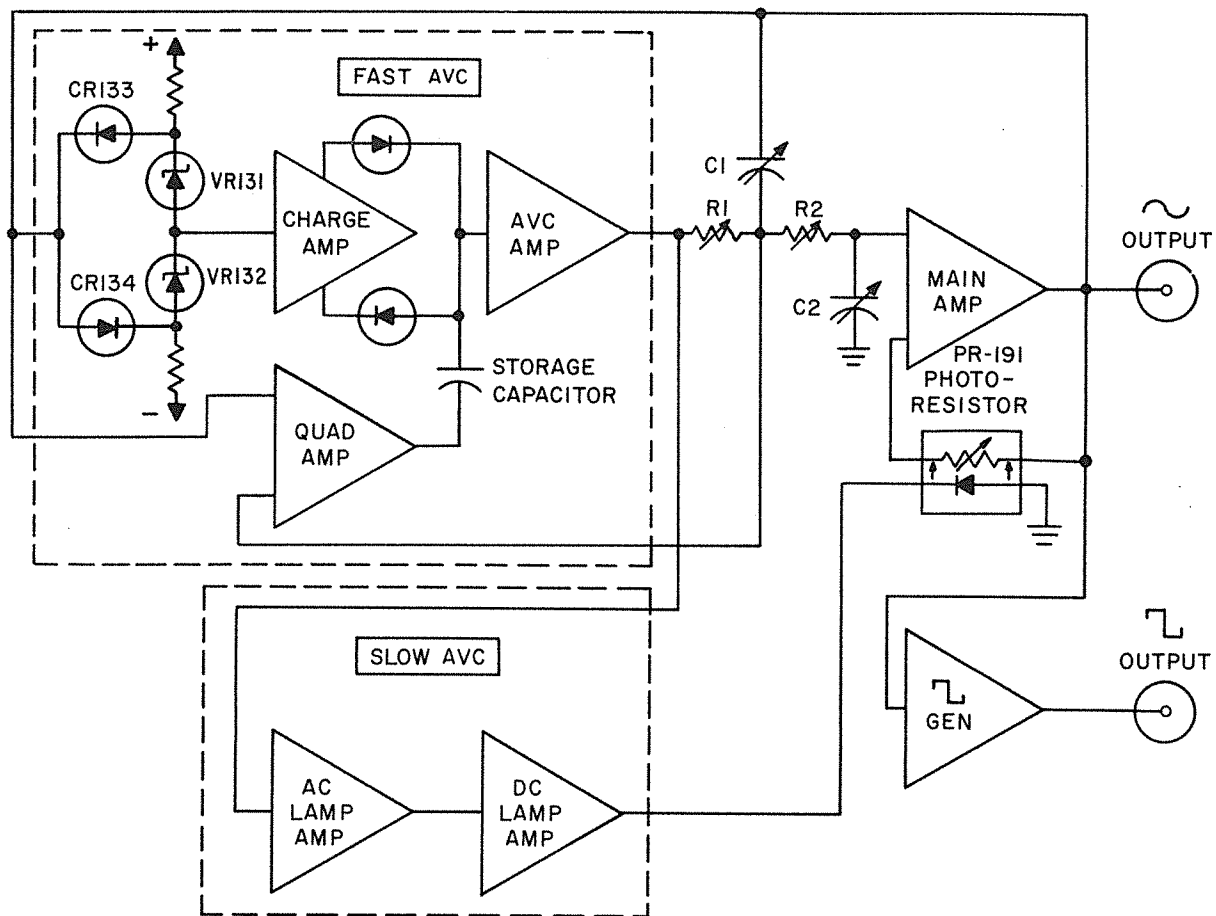

Figure 2. Simplified Schematic Diagram
The Model 4100A, shown in the Simplified Schematic Diagram Figure 2, is an RC Oscillator whose frequency is determined by a regenerative Main Amplifier in conjunction with a frequency determining network consisting of R_1C_1 and R_2C_2 . Amplitude constancy is attained by a unique dual AVC system.
In the following discussion reference to both the Simplified Schematic Diagram, Figure 2, and the Schematic Diagram Figure 8 at the end of this manual is recommended.
As shown in the Simplified Schematic Figure 2, if the Main Amplifier and Fast AVC circuits are operating properly, the remaining circuitry in question consists of the AC and DC Amplifiers in the Slow AVC circuit. With the external source connected as before, check the DC LED Amplifier output at the test point (LD). It should be approximately zero volts dc when the Oscillator sine wave output is at 9 volts rms and increase to approximately -10 volts dc as the external signal is increased. If the DC Amplifier does not function in this manner, refer to Section 4.6.2.